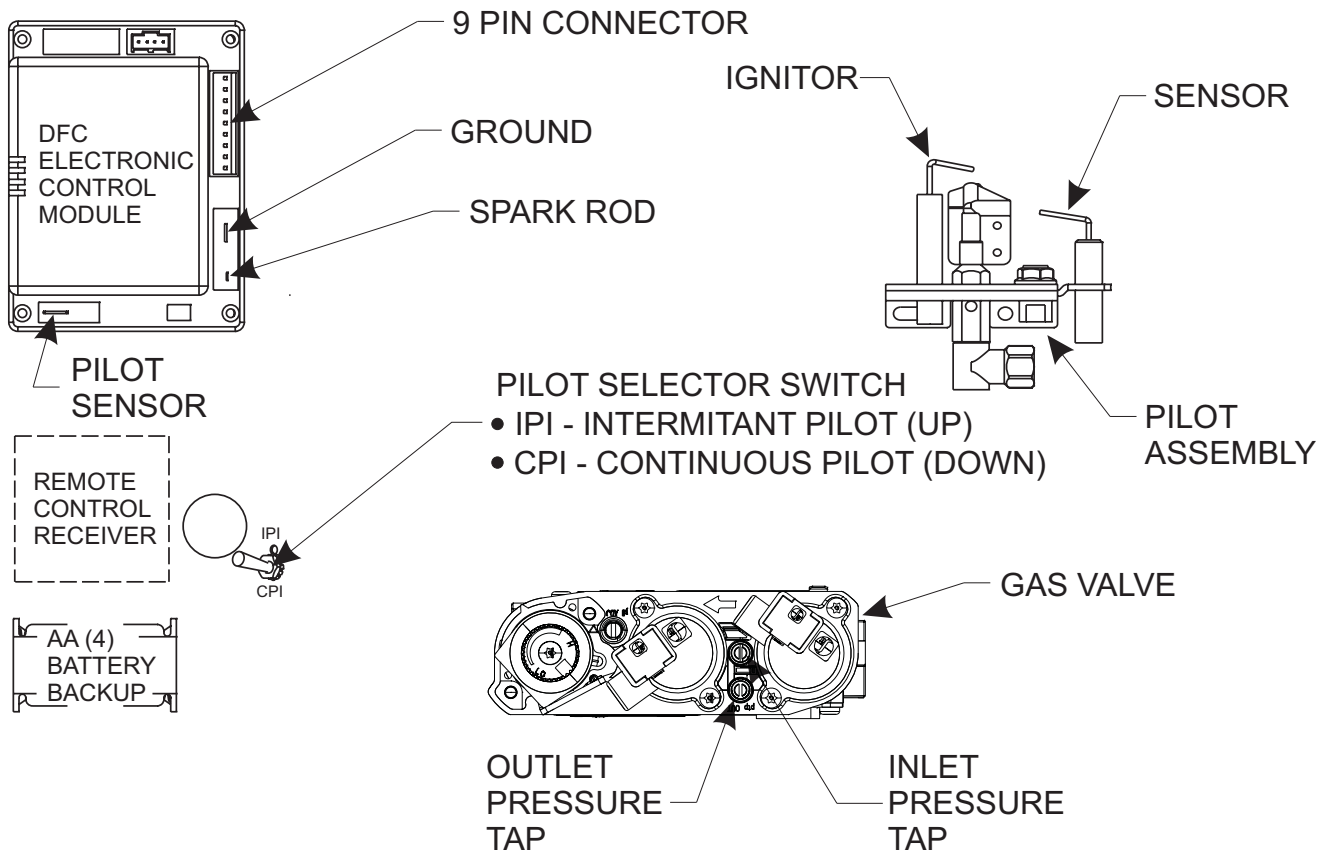

Figure 20
NOTE: A small toggle switch is located on a bracket that is used to switch from IPI (upward position) to the CPI (downward position). See Figure 20.
3. The gas valve has inlet and outlet pressure taps as shown in Figure 20. Refer to pages 10 and 11 for gas pressure requirements.
NOTE: The gas control has a manual HI/LO flame adjustment knob (regulator) that allows you to increase or decrease the height of the burner flame. See Figure 20. Rotate the HI/LO knob counterclockwise to "HI" to increase the flame height, and clockwise to "LO" to decrease the flame height.